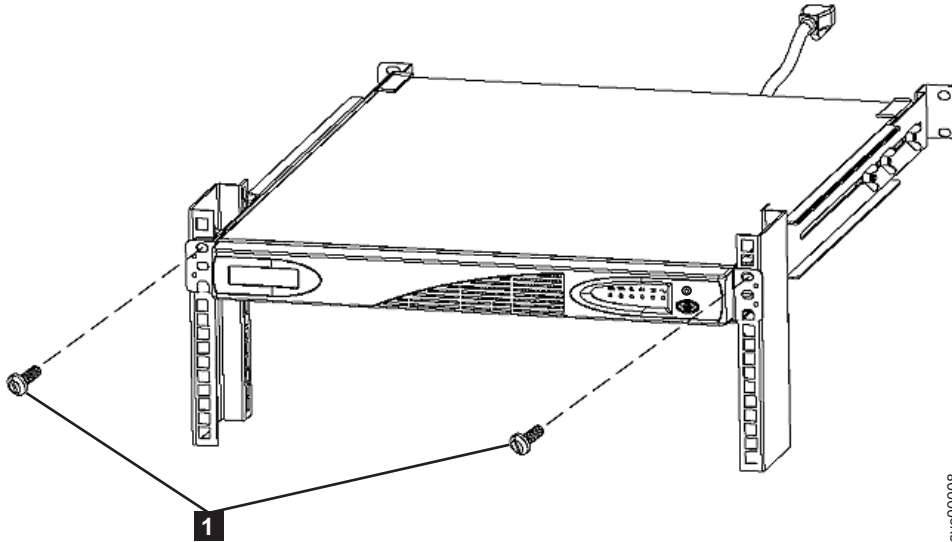

Figure 321. Removing the front screws from the 2145 UPS-1U
1. Loosen and remove the two M6 × 10 screws from each side of the 2145 UPS-1U. See **1** in Figure 321.